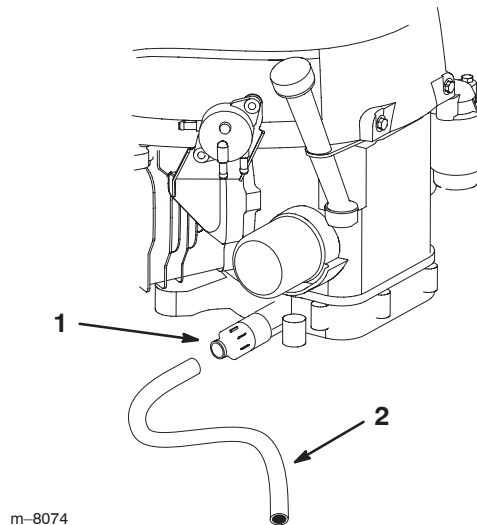

Figure 17
5. Slide the drain hose over the drain valve (Fig. 17). Place a pan below the drain hose.
6. Rotate oil drain valve to allow oil to drain (Fig. 17).
8. Remove the drain hose (Fig. 17).